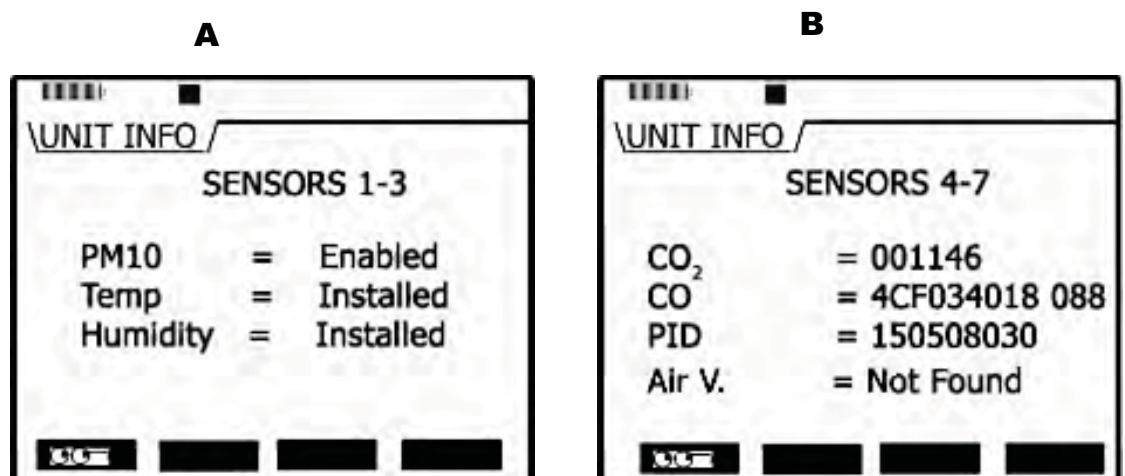

Figure 2-6: Viewing installed sensors
3. To view the installed sensors, repeatedly press **Enter** and it will display the Unit Info screen with the installed sensors. (See Figure 2-6).